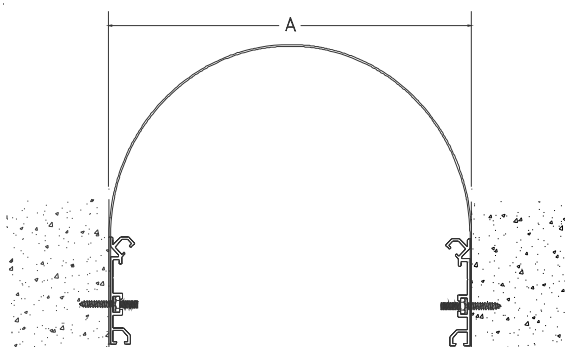

Figure 10
STEP 16. Select the joint cover system subchannels, and place them into their installed position over the water barrier. Firmly press the subchannels into the mastic spread on top of the water barrier and install the subchannels (see Figure 10). Complete the installation of the expansion joint cover system in accordance with the installation instructions for the system.